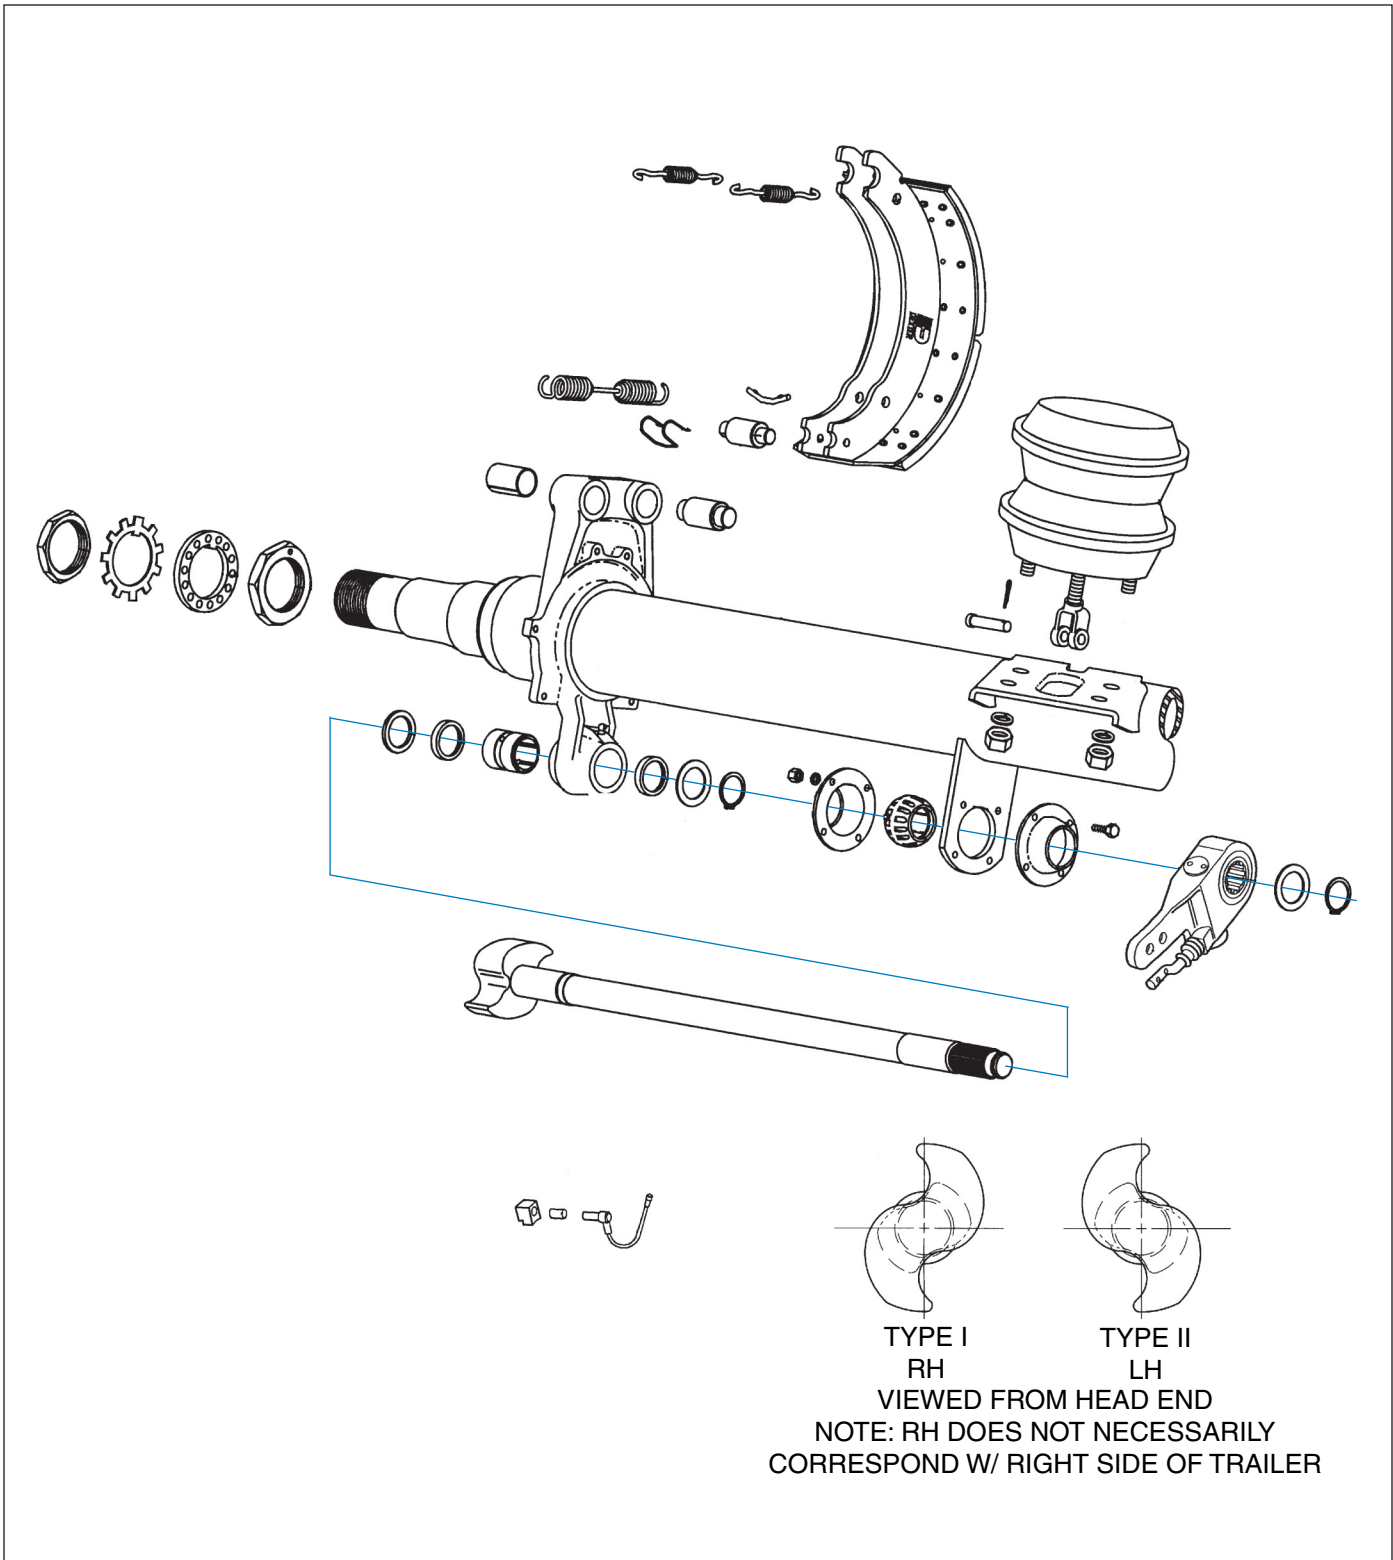

Figure 4-18: Axle and Brake Assembly
2. Remove slack adjuster lock ring and slack adjuster (*See Figure 4-18.*)
1. Release brakes and back off slack adjuster (*See Figure 4-18.*)